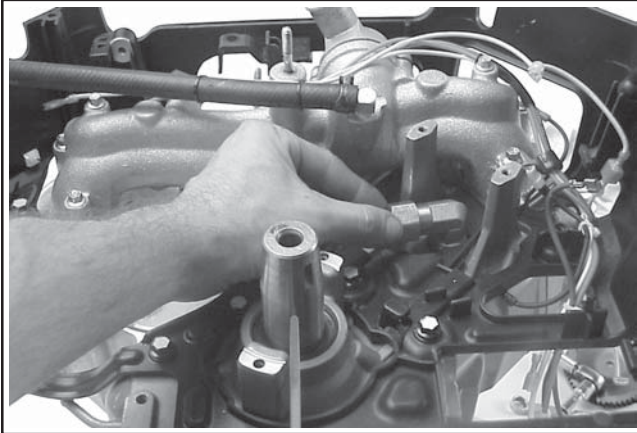

Figure 11-62. Installing Ferrule and Hex. Cap onto Fitting.
- 1) Place a new ferrule/compression ring in the 90° fitting of crankcase and loosely install the hex. cap section onto the threads of the fitting. See Figure 11-62.